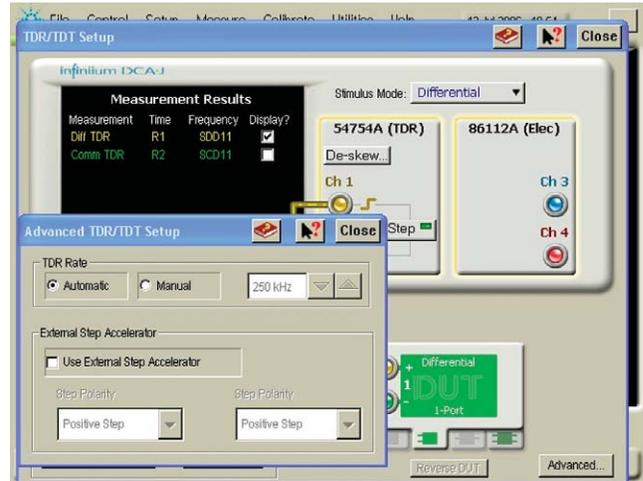

Figure 13. TDR Pulse
- (b) From the TDR setup dialog box click the "advanced" button to bring up the TDR pulse rate dialog box (see Figure 13).